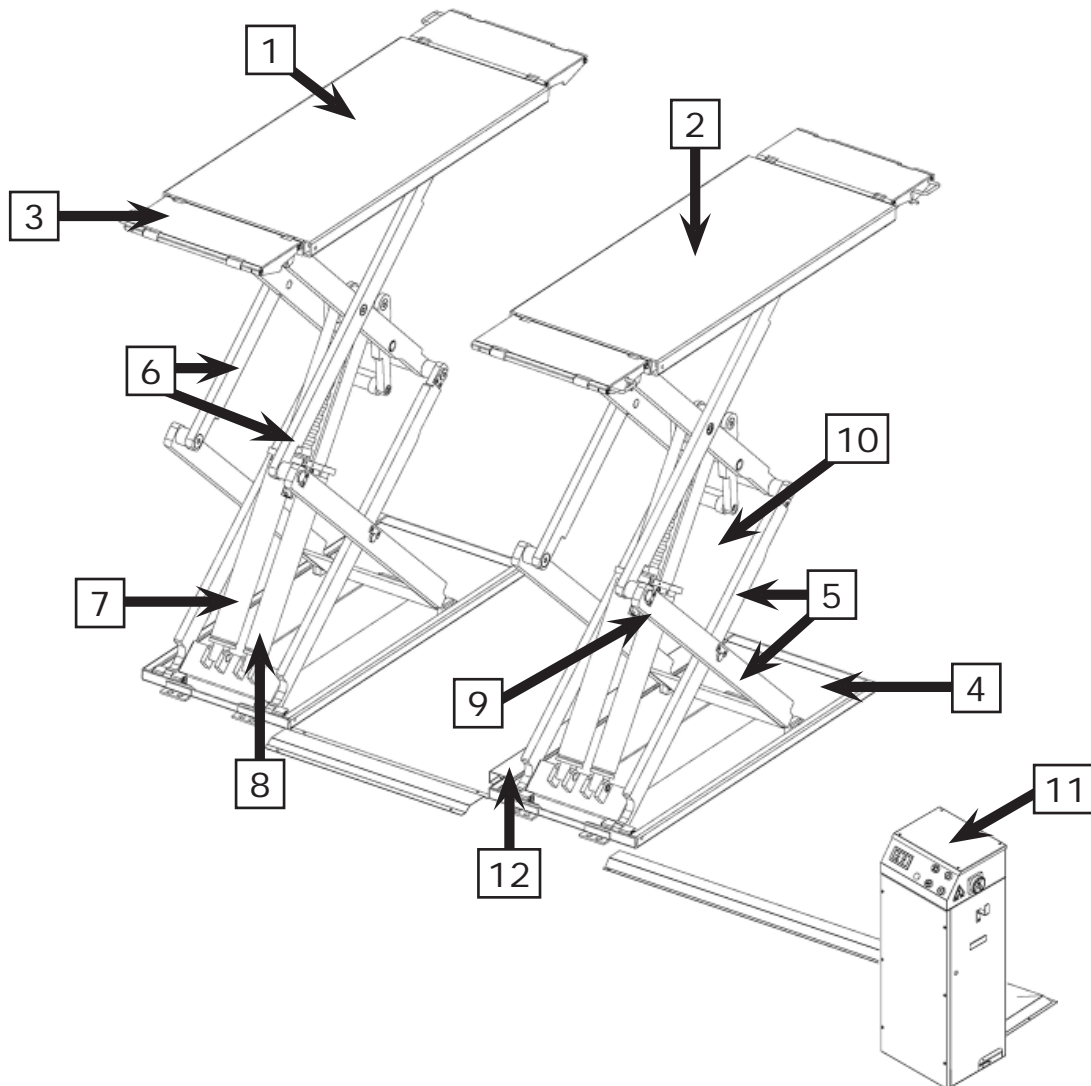

Figure 1 - Lift
4.1 Lift (Ref. Figure 1)
As shown in figure 1, the lift is composed of two platforms: P1 (1) and P2 (2) each equipped with the drive-on/off ramps (3) which can be locked to the platforms as extensions, anchored to the ground by means of bases (4).